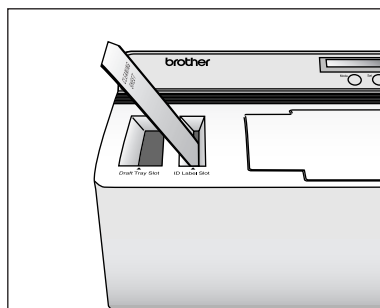

figure 4
- 2 Load the cleaning sheet into the ID label slot so that the front side faces up (see figure 4).